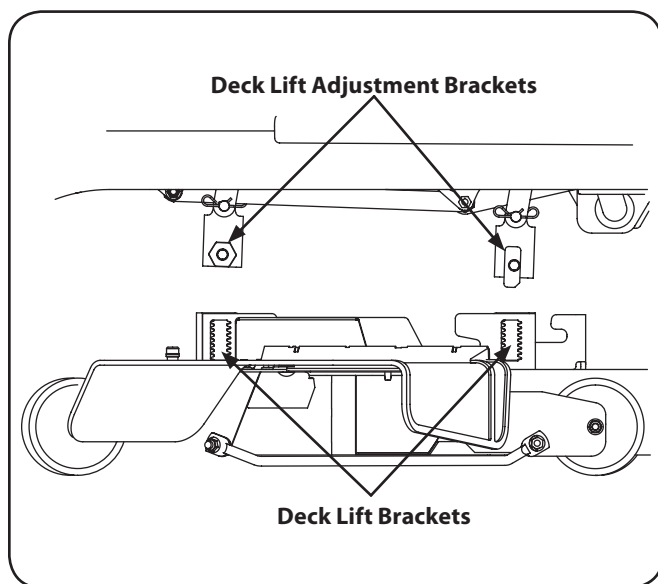

Figure 7-7
2. Slide the deck under the tractor on the right side of the tractor lining up the deck lift adjustment brackets and the deck lift brackets on the deck. See Fig. 7-7.